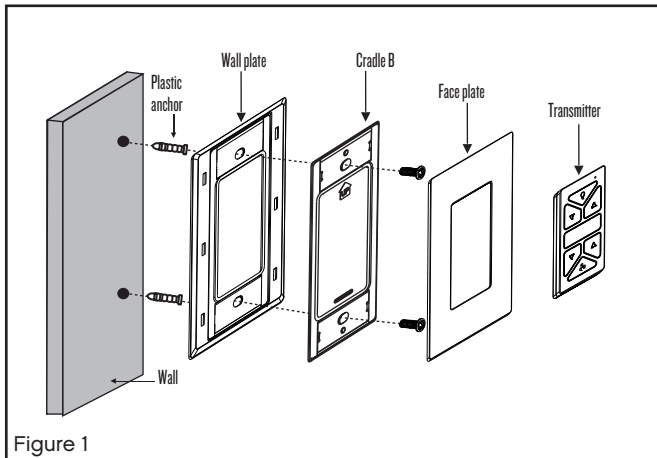

Figure 1
- 1 Remove hanger ball from downrod by loosening set screw in the side of the hanger ball. Slide hanger ball down and remove cross pin. (Fig. 1)
- 1 Insert the receiver into the ceiling mounting bracket with the flat side of the receiver facing the ceiling. (Fig. 1)
- 1 Select a desired location. Use the wall plate to mark the location of the mounting holes. Plastic wall anchors or mounting screws are needed for this application. (Fig. 1)
Remove the panel from the transmitter and then install one 2032 battery (included). You need to use a screwdriver to open or close the battery cover. To prevent damage to transmitter, remove the battery if not use for long periods of time (Fig. 1)